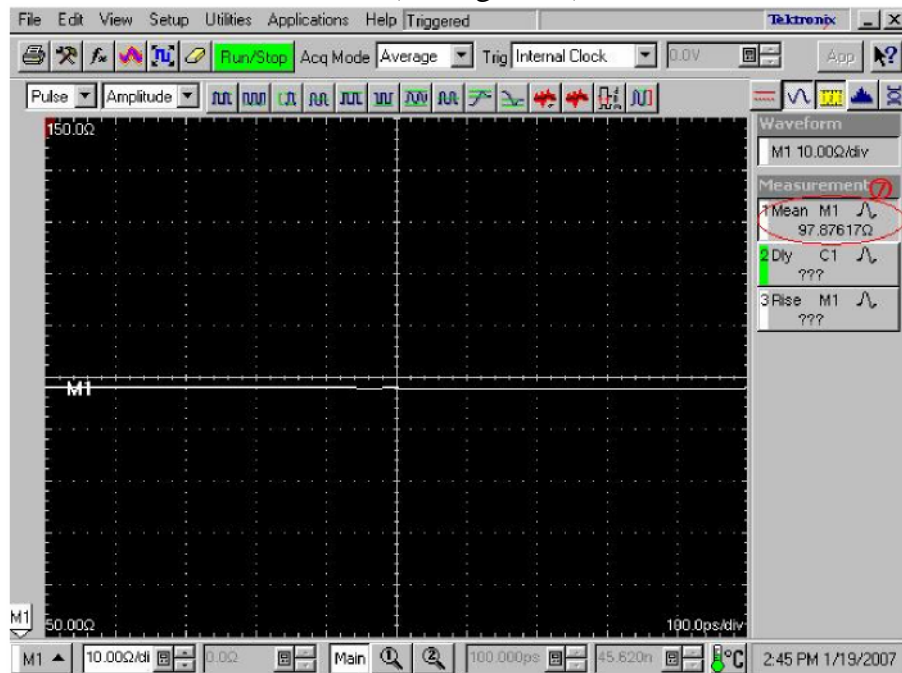

Figure 10: Measuring the M1 value
15. Measure the mean value of M1 (see Figure 10).